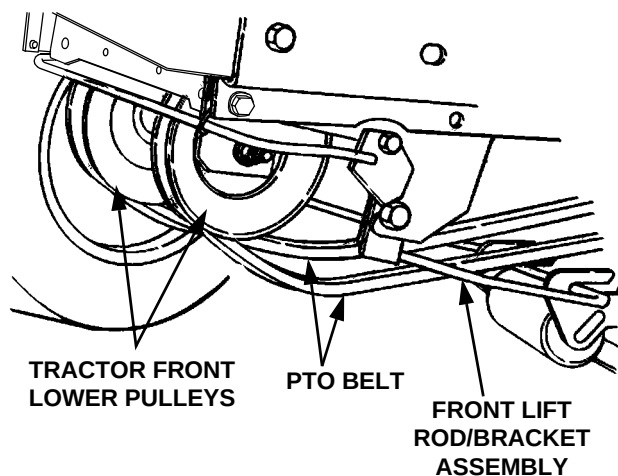

Figure 6-26
10. Open the tractor hood. From the front of the tractor pass the belt upward in front of the lower front pulleys and inside the tractor frame (Refer to Figure 6-26).
12. Twist the two sides of the PTO belt 1/4 turn inward to engage the narrow sides of the belt into the grooves of the two tractor front-lower pulleys (See Figure 6-26).